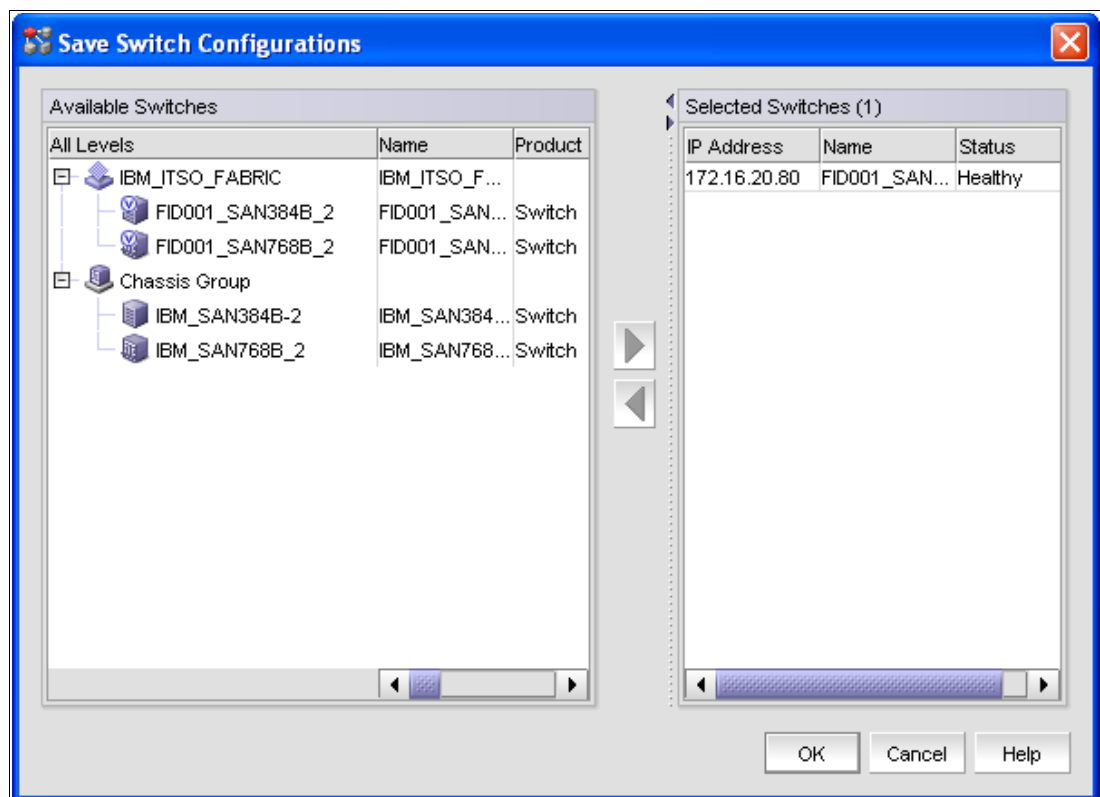

Figure 8-73 Save Switch Configurations
2. In the Save Switch Configurations dialog, shown in Figure 8-73, select the Directors you want to back up, and add them to the Selected Switches list by clicking the arrow pointing to the right.